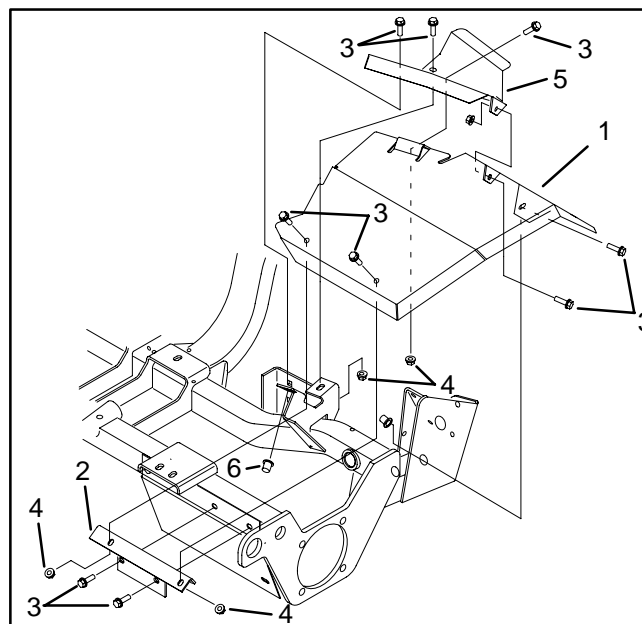
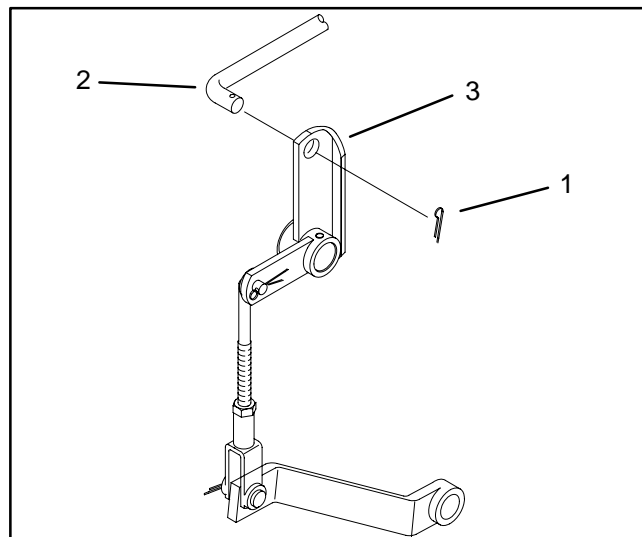

Figure 17
Figure 18
4. Remove left fender (1) and fender bracket (2) from the radiator side of the frame (Fig. 17).
A. Remove cap screw (3) and flange nut (4) holding the left foot rest (5) to the left fender.
B. Remove remaining cap screws (3) and flange nuts (4) securing the fender to the fender bracket and frame. Remove fender from the frame.
C. Remove both cap screws (3) and left fender bracket (2) from the frame.
5. Remove cotter pin (1) from adjusting rod (2). Disconnect adjusting rod from brake arm (3) (Fig. 18).
6. Remove cap screws (3) and flange nut (4) securing the left footrest (5) to the frame (Fig. 17). Slide the left foot rest off the adjusting rod (2) (Fig. 18).